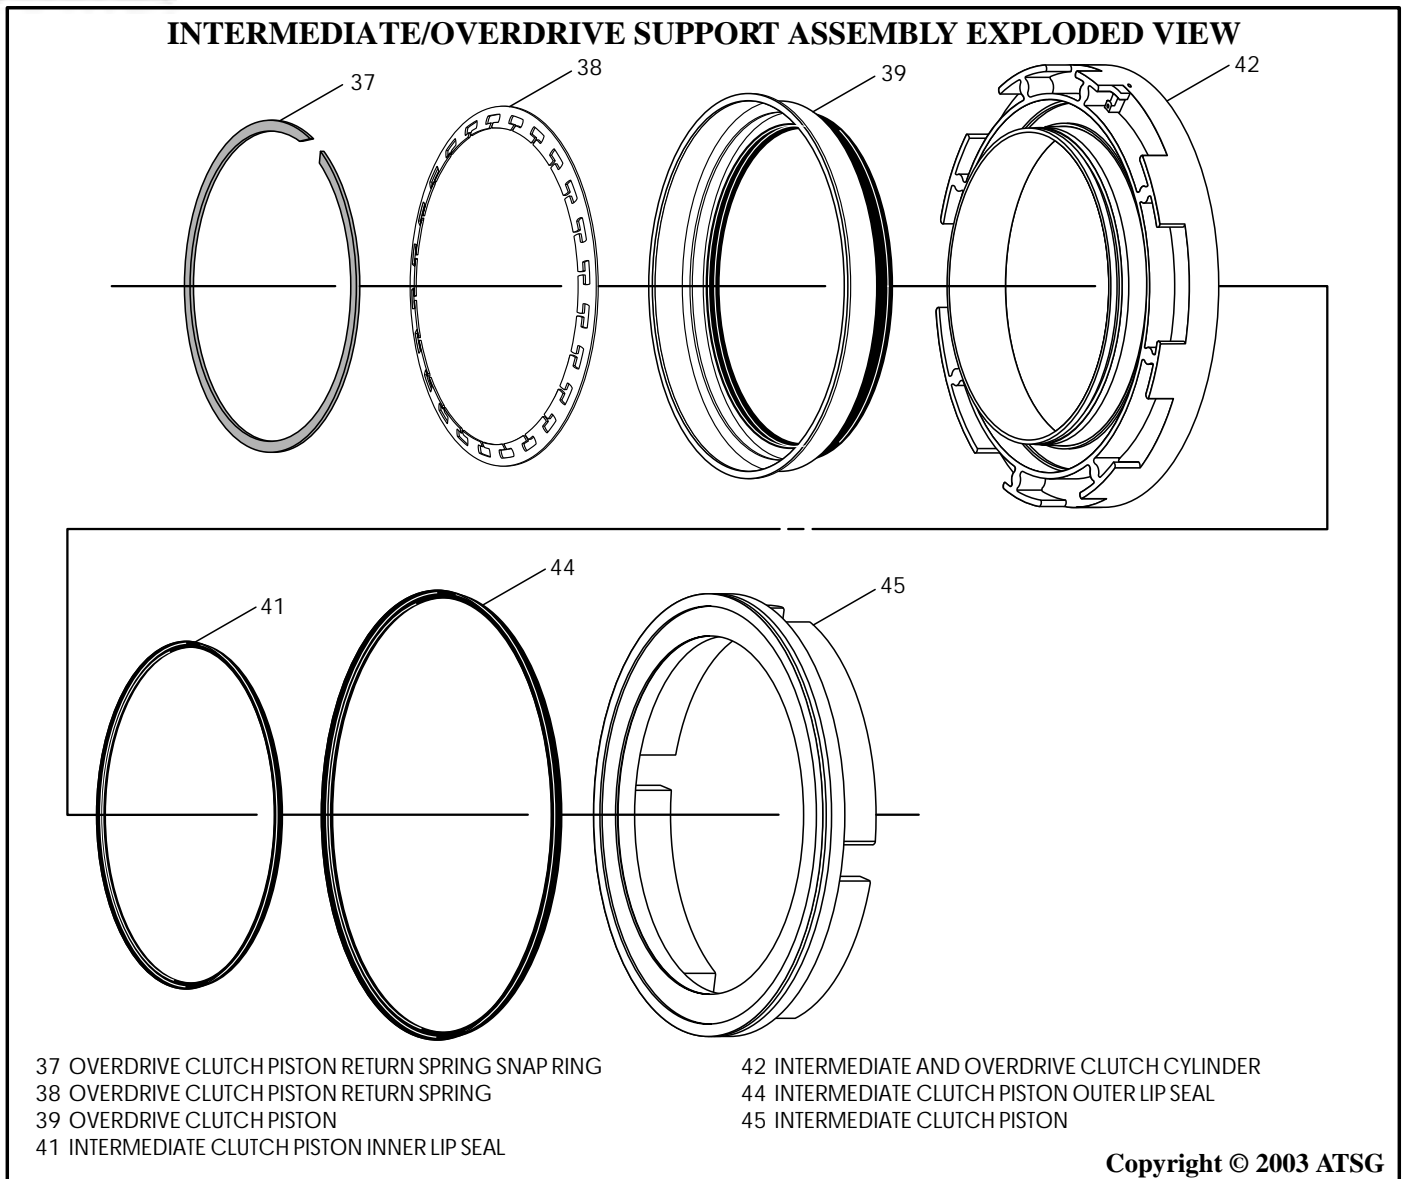

Figure 136
1. Disassemble intermediate/overdrive cylinder using Figure 136 as a guide.